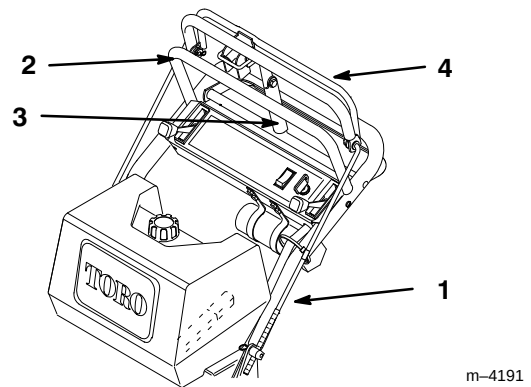

Figure 9
3. Check the gap between upper control bar and fixed bar with wheel drive fully engaged. Gap should be approximately 1 to 1-1/4 in. (25–32 mm) (Fig. 9).
5. Check parking brake adjustment. Brake rods should be adjusted so parking brake lever is snug when swung into position against the fixed bar while pulling back on upper control bar (Fig. 9).